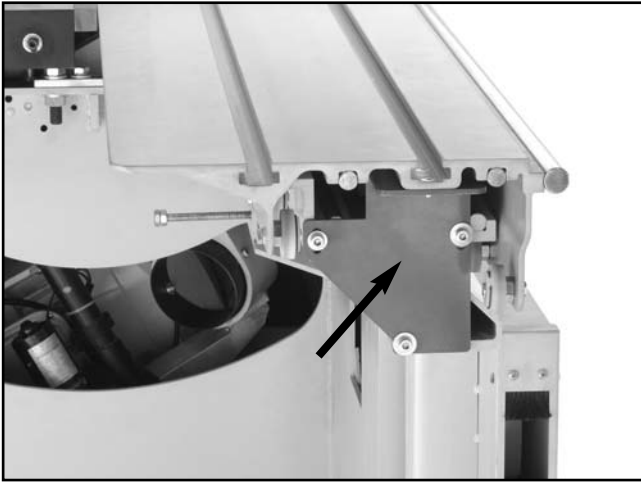

Figure 27. Sliding table shipping brace.
8. Remove the shipping brace, shown in **Figure 27**, from the end of the sliding table.